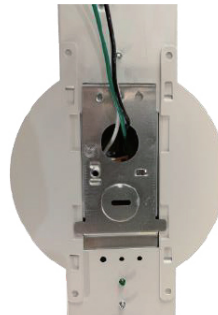

Figure 3
1. If desired, attach supplied split junction box cover plates to the back of the fixture body (Figure 3).